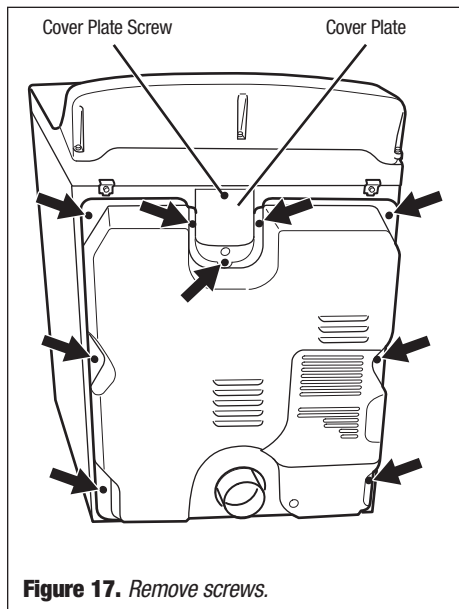

Figure 17. Remove screws.
2. Remove the cover plate screw and cover plate. See figure 17.